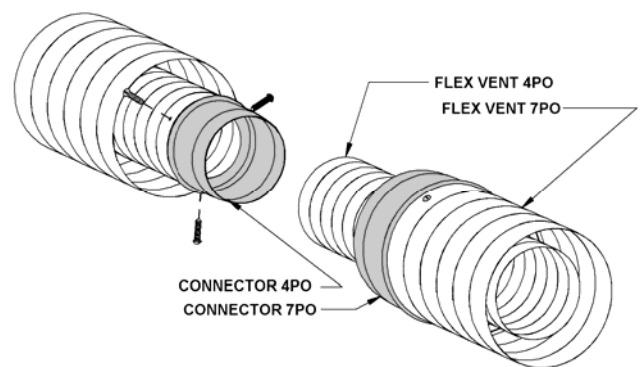

Figure 3.2.4.1.a
- Apply a generous bead high-temperature latex-based sealant inside the female part of each section as shown in figures 3.2.4.2.a and 3.2.4.2.b.